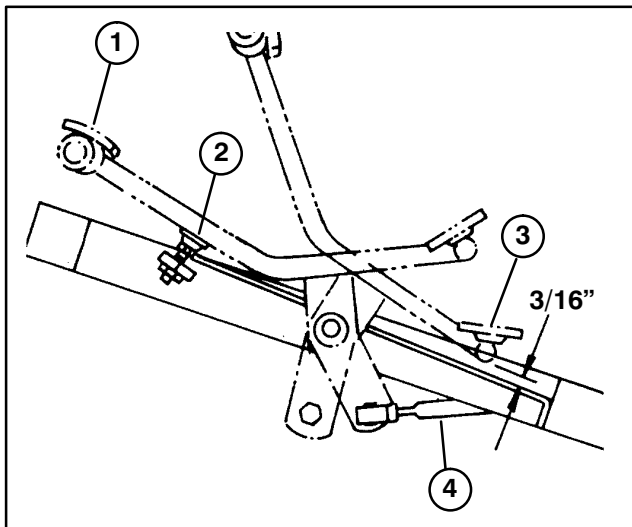

Figure 46
## ADJUSTING TRACTION PEDAL (Fig. 46)
2. Check distance between bottom of pedal and footrest as shown in Fig. 46. Distance should be approximately 3/16". If distance is greater or less than 3/16" dimension, an adjustment to the traction control rod is required.